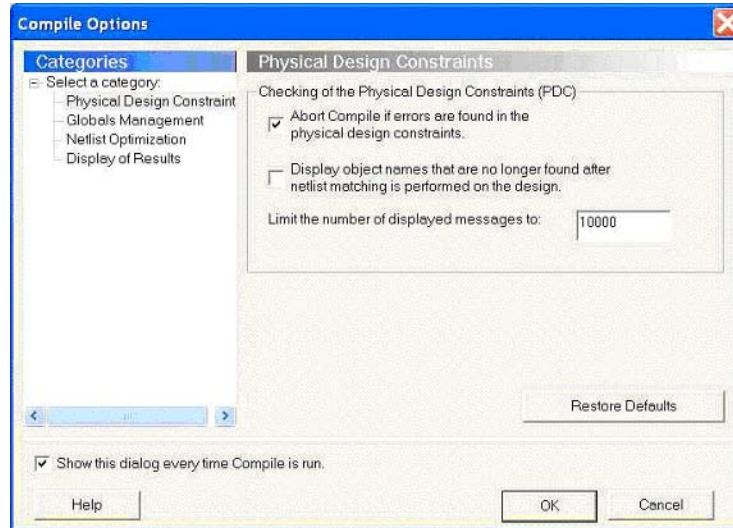

Figure 7-31 • Compile Options Window
- Click the **Compile** icon. Leave the default Compile settings (Figure 7-31) and click **OK**.